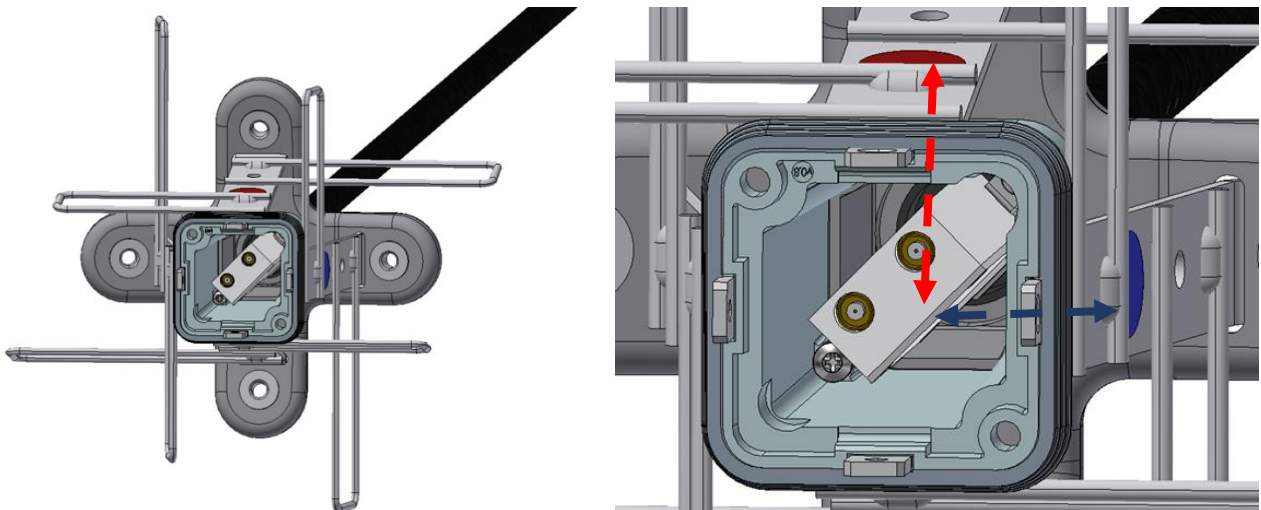

Figure 5: FEM correct position inside the trumpet assembly.
| Figure 5: FEM correct position inside the trumpet assembly. | 8 |
8. Insert the FEM inside the trumpet with the orientation explained in Figure 5 (the cover must be in front of the blue dot, and opposite to the red dot).